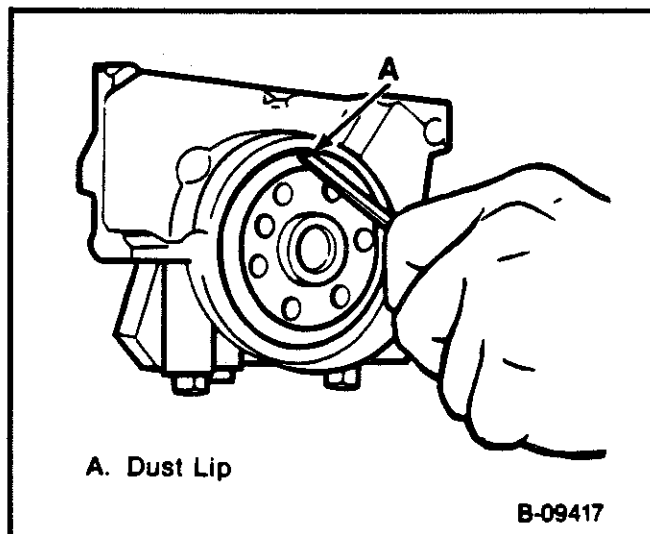

Figure 20 - Removing the Rear Crankshaft Oil Seal
- Insert a screwdriver or similar tool through the dust lip at an angle (Figure 20).